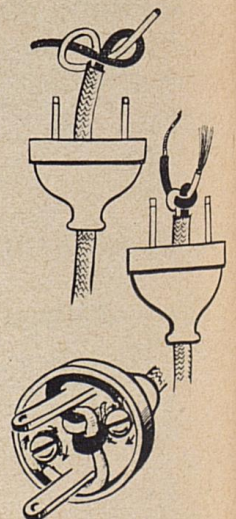

Fig. 13
1. Pass cord through cap. Fig. 13.
2. Follow steps indicated in figure 13 and make knot.
4. Remove $\frac{1}{2}$ -inch of rubber insulation. Fig. 13.
6. Connect wire around screw in direction in which screw tightens. Fig. 13.
11. Inspect convenience outlet plug at other end of cord, and test connections. Figures 13 and 6.